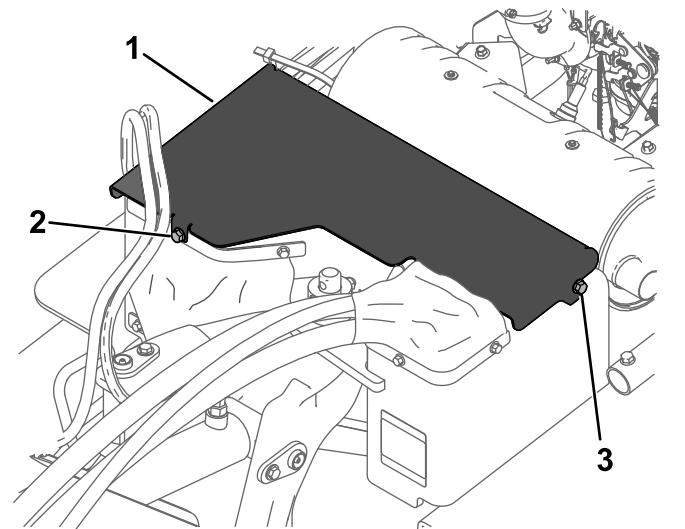

Figure 24
3. Remove the front bolt and loose then left bolt securing the front cover to the machine (Figure 24).
4. Slide the cover forward slightly and pull up to remove the cover (Figure 24).
5. To install the front cover, slide the front cover into place and secure it with the 2 bolts (Figure 24).